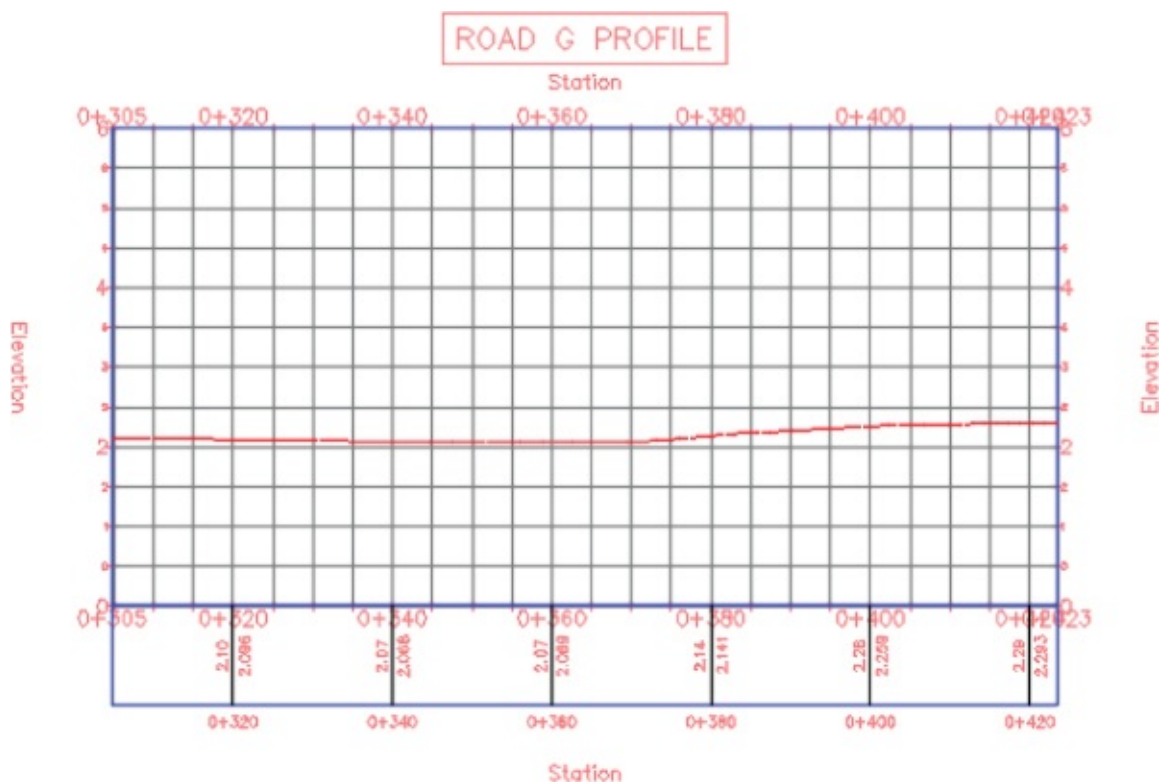

Figure 7.37 The completed profile view of ROAD G using the Full Grid profile view style
6. Click the Create Profile View button and pick a point onscreen to draw the profile view, as shown in Figure 7.37.